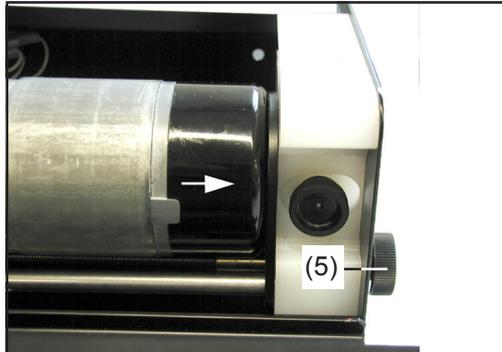

Fig.19 Push the drive unit to the right completely
Important! This section applies should it not be possible to reduce the distance to 1 - 2 mm (0.04 - 0.08 in.) by turning the positioning screw (5) -Fig. 19 - between the outlet nozzle and nozzle on the wire feed hose - in spite of turning the positioning screw.
- Turn the hexagon nuts (24) and (25) using two engineer's wrenches (spanner width 13) and turn as far as the end of the threaded rod
- Push the drive unit to the left as far as the stop - by turning the positioning screw (5) - Fig. 19.